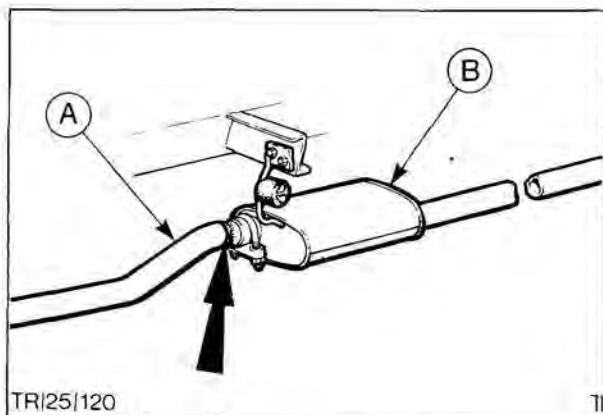

Fig. 28. Join between front muffler section and front down pipe
3. Remove 'U' bolt clamp from down pipe/front muffler joint. Separate down pipe from front muffler, Fig. 28. If down pipe cannot be separated refit 'U' bolt clamp and cut pipe in front of muffler leaving sufficient old pipe to use connector sleeve to join new pipe to muffler section.